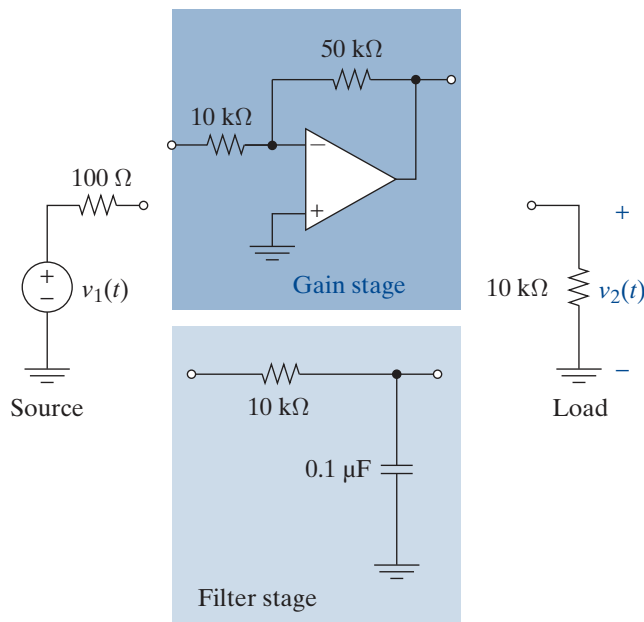

FIGURE P12-9
- 12-9 **E** A young designer needed to design a low-pass filter with a cutoff of 1 krad/s and a gain of -5 . The filter is to fit as an interface between the source and the load. The designer was perplexed when no matter how the stages shown in Figure P12-9 are connected the results are not what were expected. Explain the problem and suggest a way to achieve the desired results.